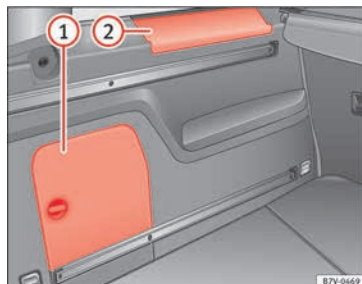

Fig. 188 In the luggage compartment: Side storage compartment
There are other compartments » Fig. 188 ① and ② in the side of the boot. To open the compartment ①, turn the catch clockwise. To open the compartment ②, lift the cover. Compartment ① houses the factory fitted **CD changer**. The compartment lid ① can safely store the tray support covers.